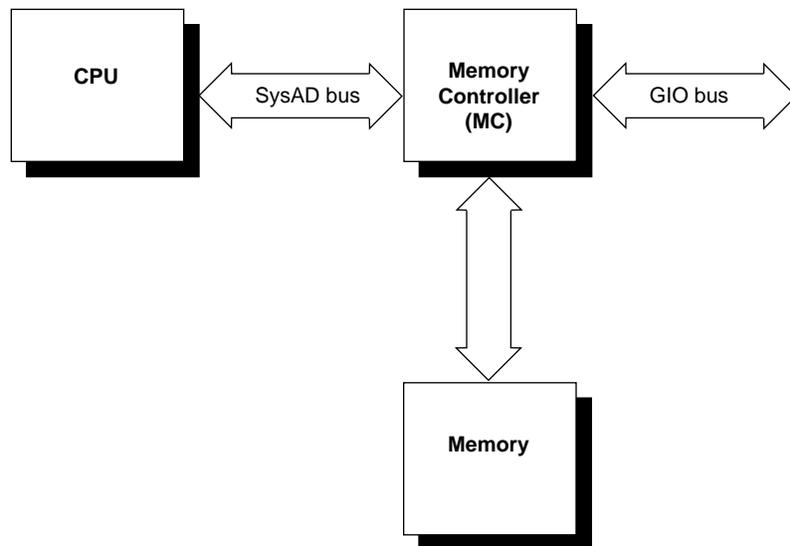

Figure 6-1 The SysAD Bus in Context
Beginning with IRIX 5.3, parity checking is enabled on the SysAD bus (see Figure 6-1). Unfortunately, with certain GIO cards, errors can occur if memory reads complete before the Memory Controller (MC) finishes calculating parity.